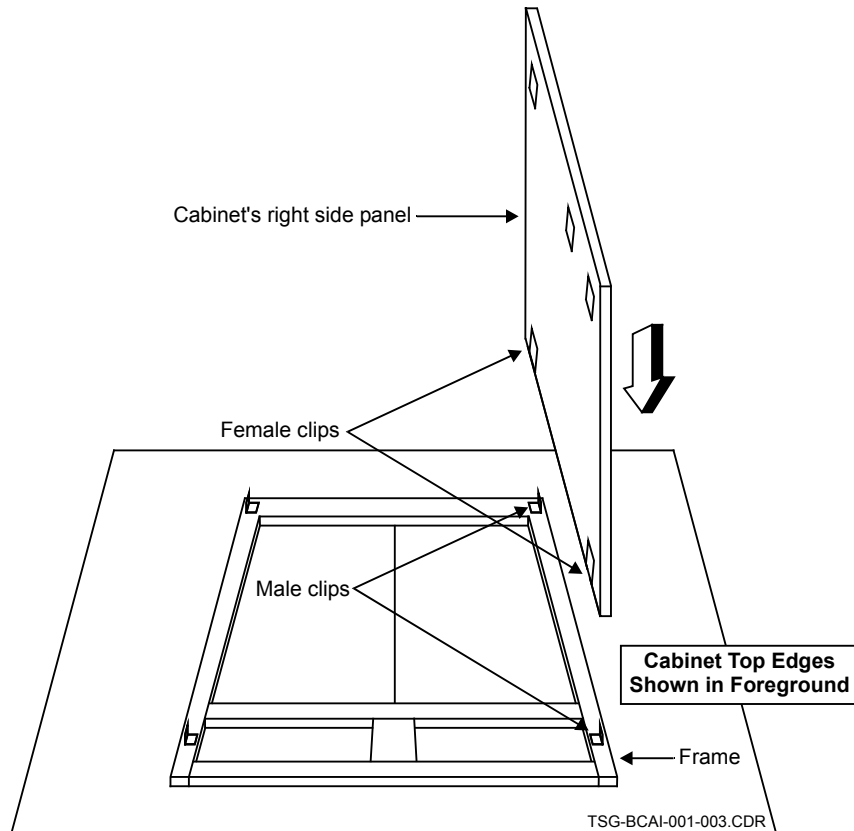
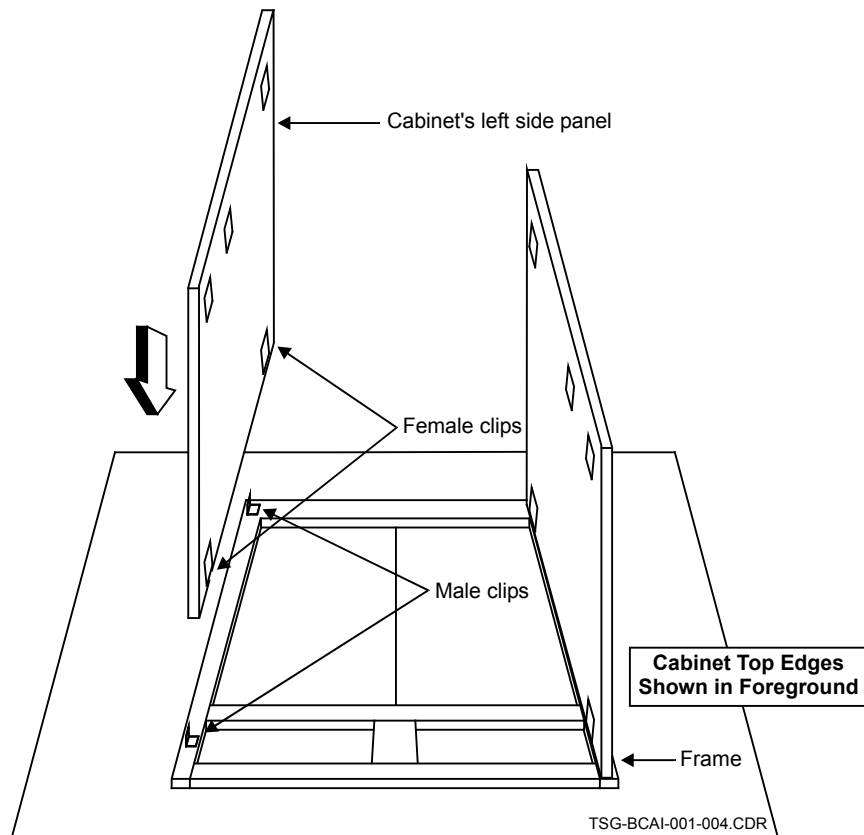

Figure 4 — Attach the Right Side Panel
Figure 5 — Attach the Left Side Panel
- (2) Referring to Figure 4, align the cabinet's right side panel with the frame and snap the female clips mounted on the right side panel onto the male clips mounted on the frame.
(3) Next, attach the left side panel in the same manner (see Figure 4 and Figure 5).